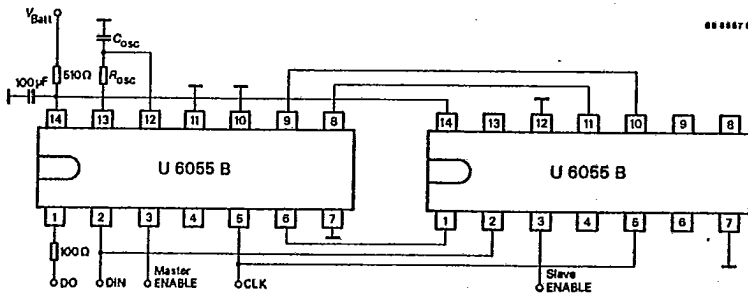

Fig. 7
Scanning of up to 16 switches or pushbuttons is possible by connecting together two transmitters. The connection between master and slave is shown in Fig. 7. The data output DO of the slave is connected with the data input DIS of the master; the two data signals are combined with each other there and are available at the data output DO of the master (Figs. 4 and 5).
- DIN and CLK of master and slave are parallel-connected. One separate ENable line for master and slave in each case. Loading of the shift registers takes place separately, Fig. 7.